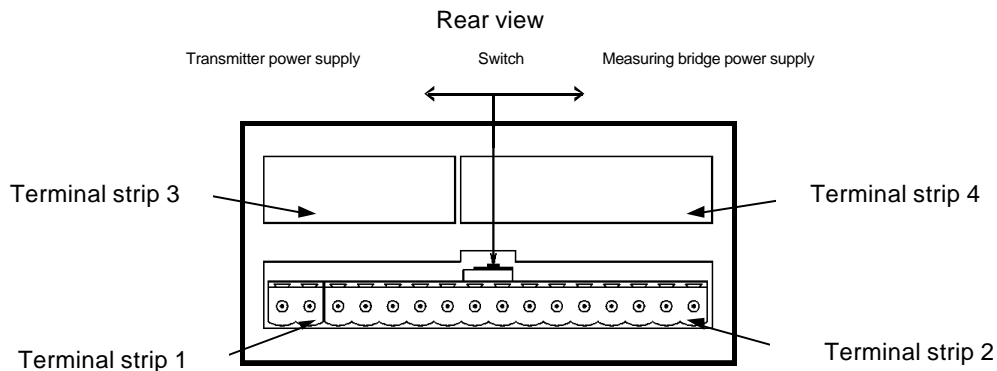

FIGURE 4
- Set the diverter switch on the base card as shown in figure 4.